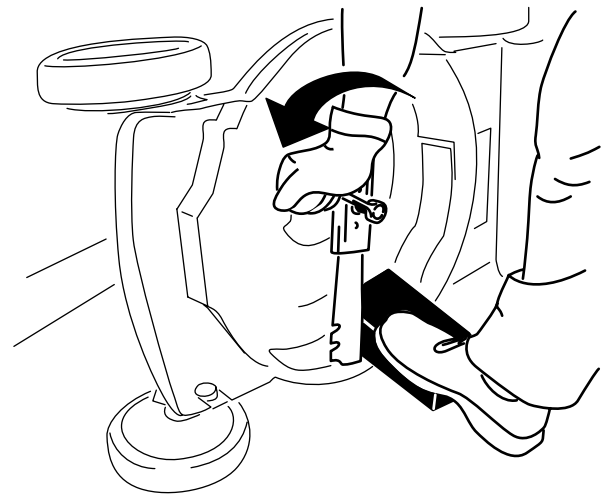

Figure 17
2. Use a block of wood to hold the blade steady (Figure 17).
3. Remove the blade bolt, bracket, and blade; save the bracket and blade bolt (Figure 17).